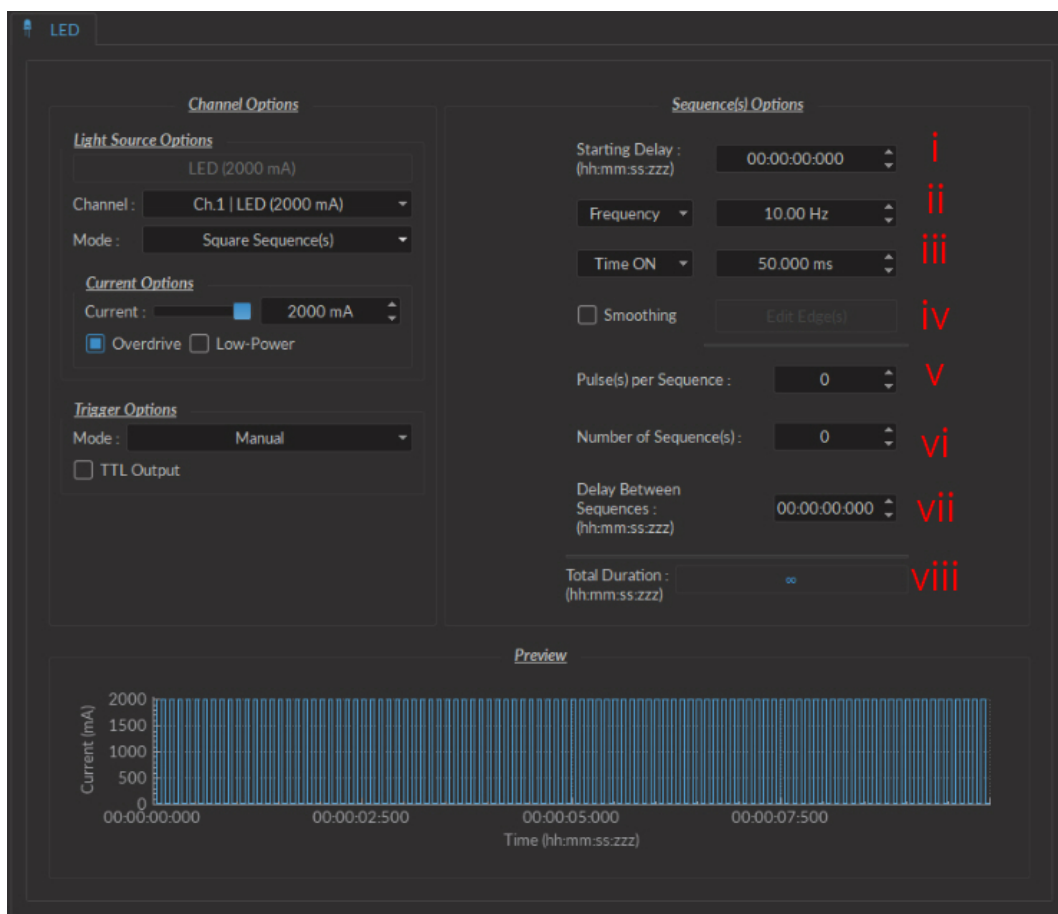

Figure 4.6: Light Source Channel Configuration Window, square sequence options
- i. The **Starting Delay** (Fig. 4.6) sets the delay (in hh:mm:ss.zzz format) before the first pulse.
- ii. The **Frequency/Period** (Fig. 4.6) sets the frequency (in Hz) or period (in ms) for the pulse sequence. For example, a signal at 10 Hz (frequency) will output one pulse every 100 ms (period), whereas a pulse sequence at 0.5 Hz (frequency) will output one pulse every 2000 ms (period).
- iii. The **Time ON/Duty Cycle** (Fig. 4.6) sets the time (in ms) or the duty cycle (in %) for each pulse. The **Time ON** must be lower than  $(1/\text{frequency})+0.005$  ms, while the **Duty cycle** must be below 100 %. These squares will appear red should an impossible **Frequency/time ON** be selected. Should the **Smoothing** option be selected, this feature becomes inaccessible.
- v. The **Pulses per sequence** (Fig. 4.6) sets the number of pulses per sequence. If it is set to 0, the pulse will be repeated indefinitely.
- vi. The **Number of sequences** (Fig. 4.6) sets the number of times that the sequence will be repeated. If it is set to 0, the sequence will be repeated indefinitely.
- vii. The **Delay between sequences** (Fig. 4.6) sets the delay (in hh:mm:ss:zzz format) between each sequence if the **Number of Sequences** is greater than 1.
- viii. The **Total Duration** (Fig. 4.6) displays the total time of the experiment. The different values can be *Inf* for infinite, a valid time value or *Err* if the **Time ON** value is greater than  $1/\text{frequency}$ .